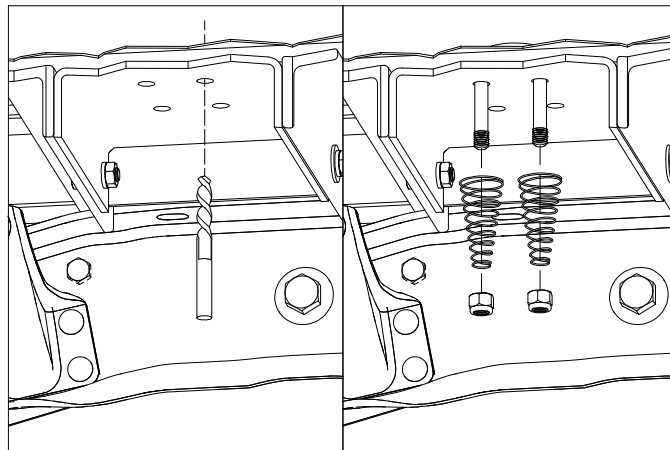

Figure F2 & F3: Cut away view of bed and center section.
1. **Drill the holes.** From under the bed use a drill and a 1/2" drill bit to drill through the bed using the four holes that match up with a low rib in the truck as a guide. Remove any burrs created during the drilling process, see figure F2.